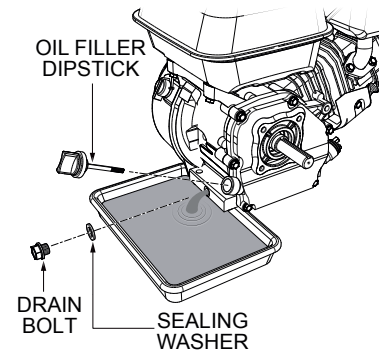

Figure 18. Engine Oil (Draining)
2. Drain the engine oil when the oil is warm after operation. Remove the oil filler cap then unscrew the engine oil drain plug located at the base of the engine. Drain the old oil into a pan (Figure 18).